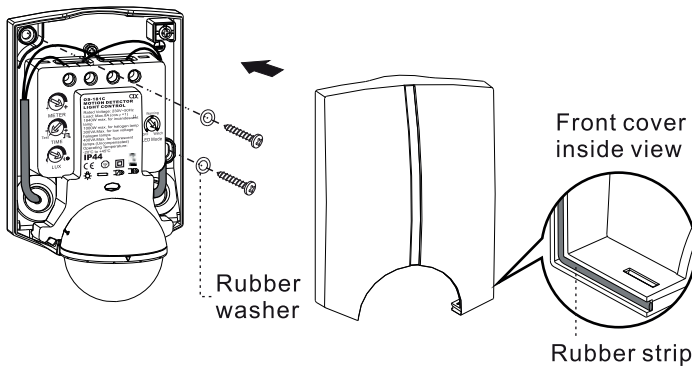

FIG.8
the front cover and tighten it with screws. (See FIG.8)
- DO NOT take off the rubber strip voluntarily and make sure it lies in the front cover perfectly (See FIG.8).